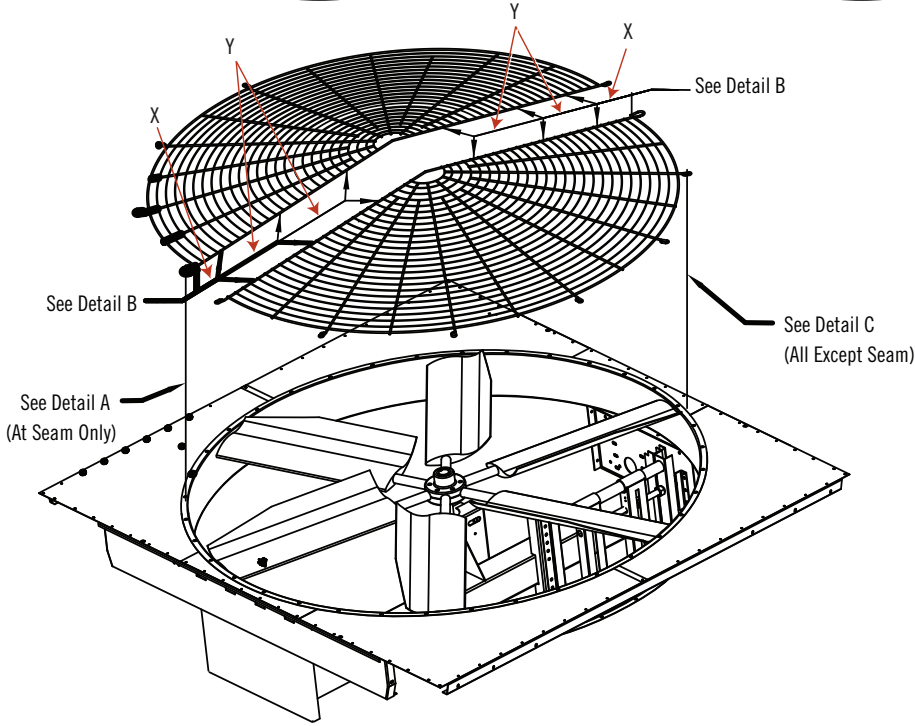

Figure 14. Two-Piece Fan Guard Assembly
1. Using six U-bolt assemblies, fasten the two halves of the fan guard together as illustrated in **Figure 14, Detail B**. Locate the U-bolt assemblies along the seam between the two guard halves per the X and Y dimension provided in **Table 3**, which are based on the diameter of the supplied fan.
3. Mount the fan guard to the unit as illustrated in **Figure 14, Detail A** for the ends of the seam where the two guard halves join together, and **Detail C** for all other locations around the fan guard perimeter.